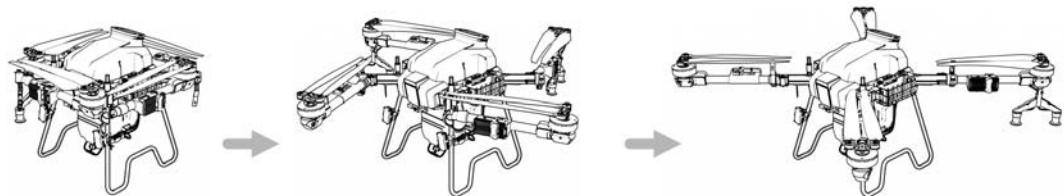

Figure 1-33 Arm Unfolding
Step3: Unfold the arms. See Figure 1-33;